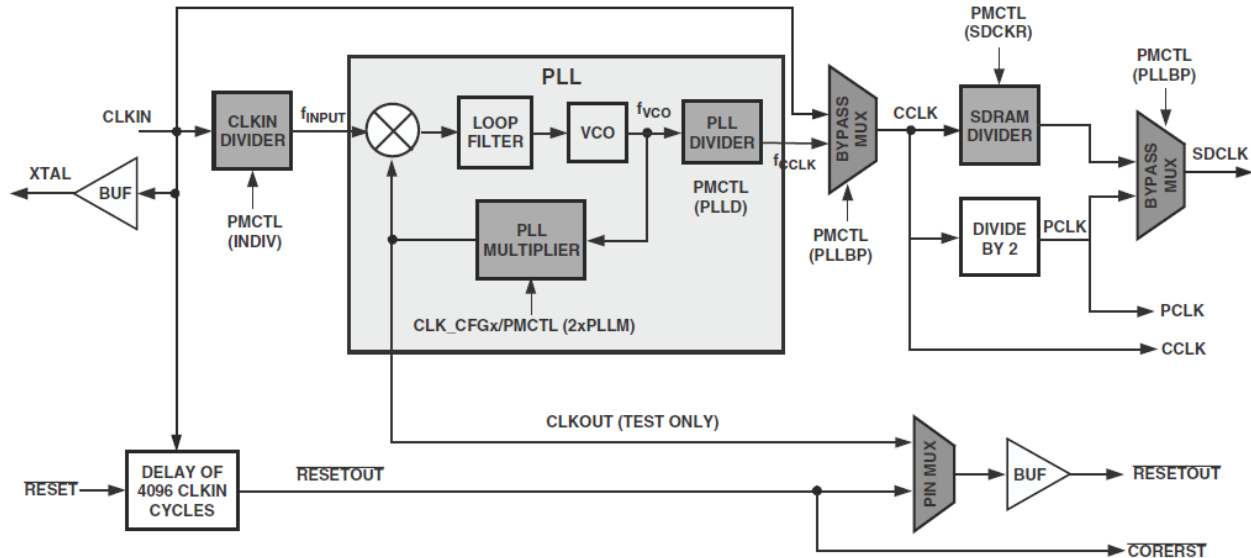

Figure 3. PLL block diagram for ADSP-2147x and ADSP-2148x processors
- The Figure 3 shows the PLL block diagram for the ADSP-2147x and ADSP-2148x processors. The following bits in the `PMCTL` register are used for programming the PLL: